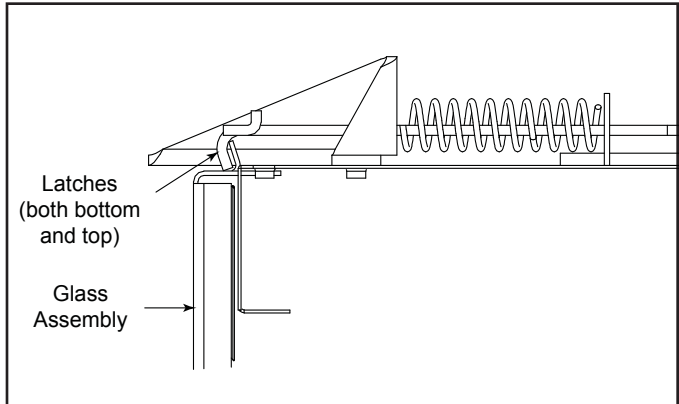

Figure 11.1 Fixed Glass Assembly
- Pull the four (two upper and two lower) glass assembly latches out of the groove on the glass frame. Refer to Figure 11.1.